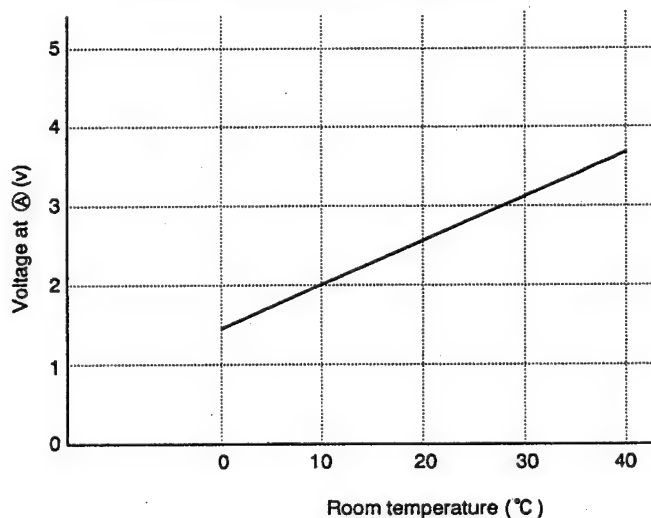

Fig. 5-2
The voltage at (A) depends on the room temperature as shown in Fig. 5-2.